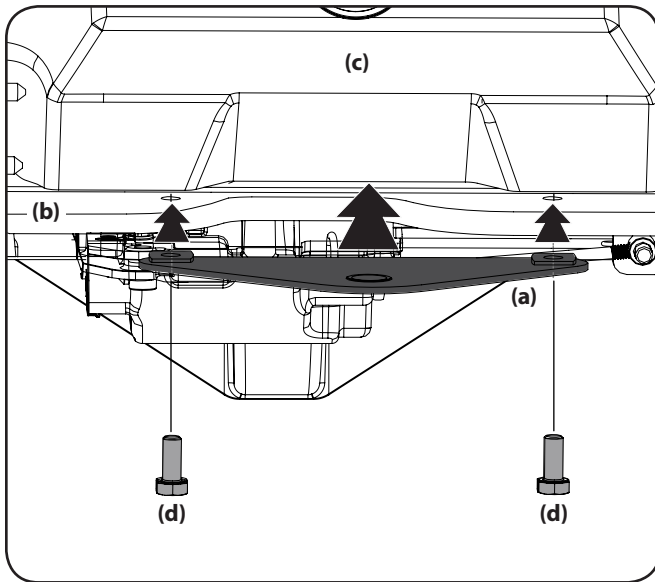

Figure 1-1
1. Slide the hitch plate (a) in between the frame (b) and the rear cover (c) on your rider. See Figure 1-1.
2. When the holes in the hitch plate (a) and the frame (b) are aligned, install the two hex screws (d) up through the frame (b) and into the hitch plate (a). See Figure 1-1.